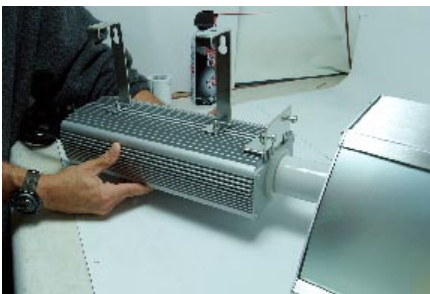

Figure 4
3. Attach Reflector as shown (Figure 4).